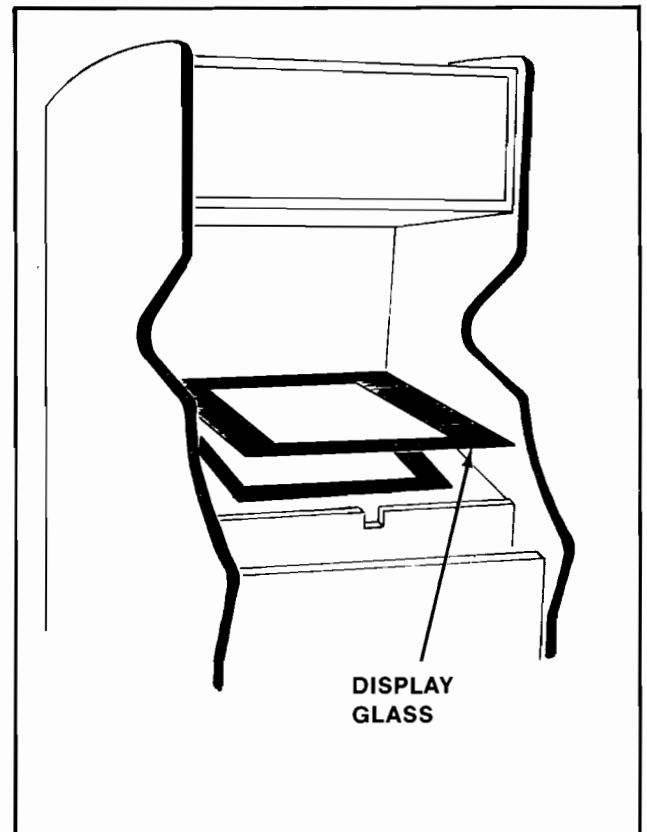

Figure 4-5 Removal of Main Display Glass & T.V. Bezel — Upright
1. UPRIGHT MODEL: See Figure 4-5.
- By putting your finger in the hole in the middle of the main-display-glass support, you can lift it up and out. See Figure 4-5.